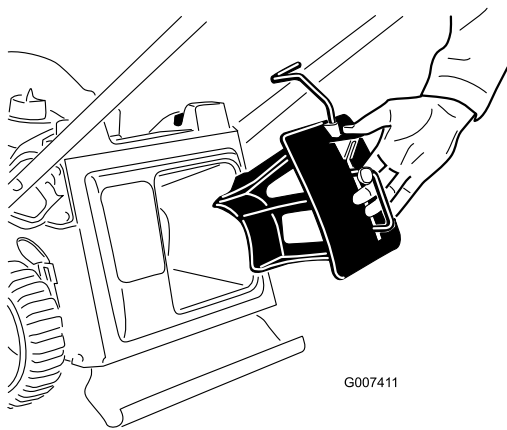

Figure 8
1. Insert the mulch plug into the mower, if it isn't already installed (Figure 8).